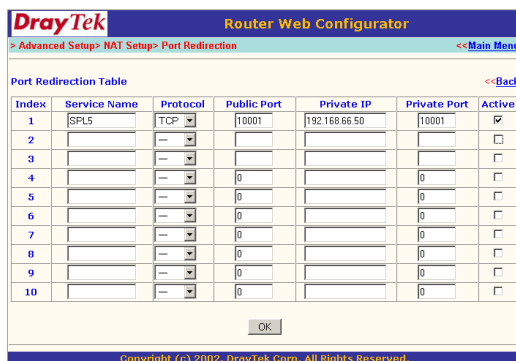

Figure 7: Port and address settings
- In the following window (figure 7) the address and port numbers of the local computer can be entered. The SPL5 server uses port number 10001.